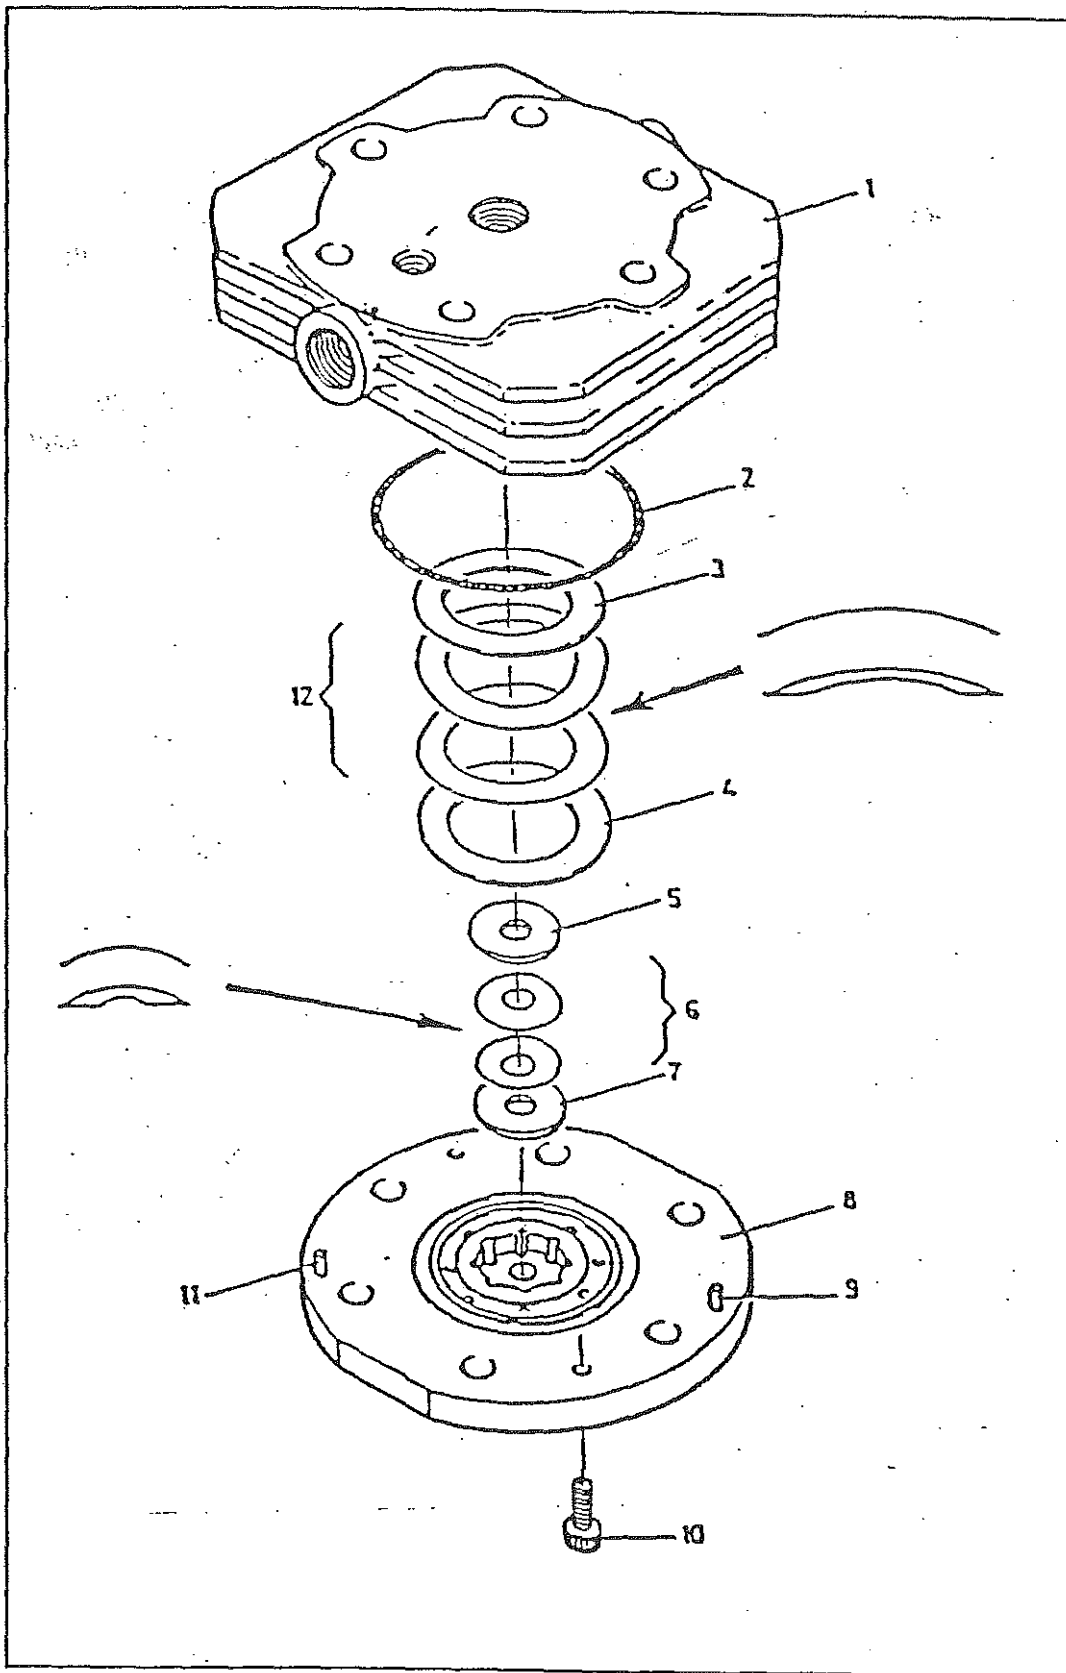

FIGURE 13-2 SECOND STAGE VALVE
Invert base (8) and fit plate (7) followed by springs (6) which should be arranged as shown in Figure 13-2. Fit suction plate (5).
Invert cylinder head (1) and fit plate (3), followed by springs (12), which should be arranged as shown in Figure 13-2. Fit delivery plate (4), and place new "O"-ring (2) into the cylinder head groove. Ensure the delivery plate (4) is centralized.